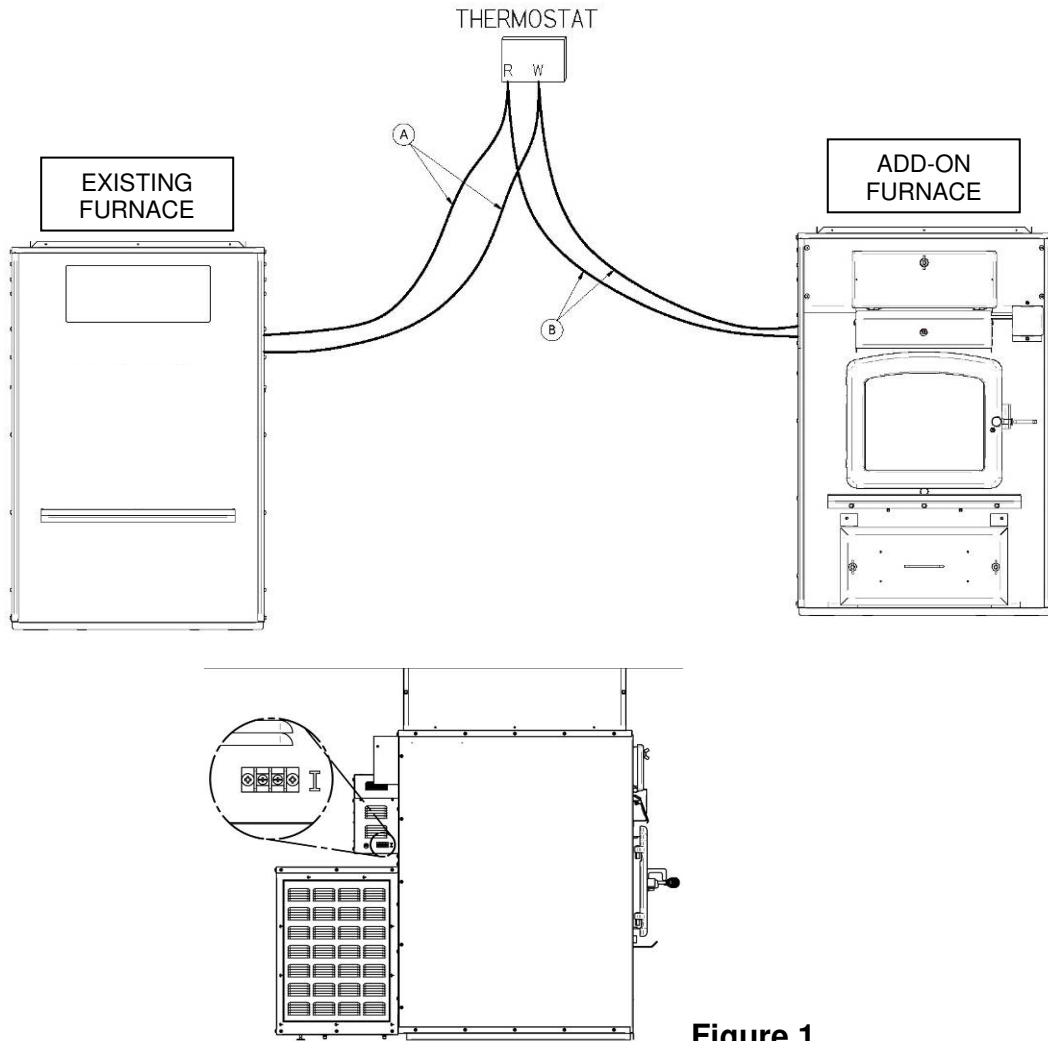

Figure 1
- 1- From the terminal of the existing furnace, connect 2 new wires (B) to the existing wire (A) and fix them to the terminal on the circuit board labeled "I" (interlock) of the Add-On furnace (see **Figure 1**).
- From the thermostat connected to the existing furnace, connect 2 new wire (B) on the R and W terminals of your thermostat and fix them to the terminal on the circuit board labeled "I" (interlock) of the Add-On furnace (see **Figure 1**).